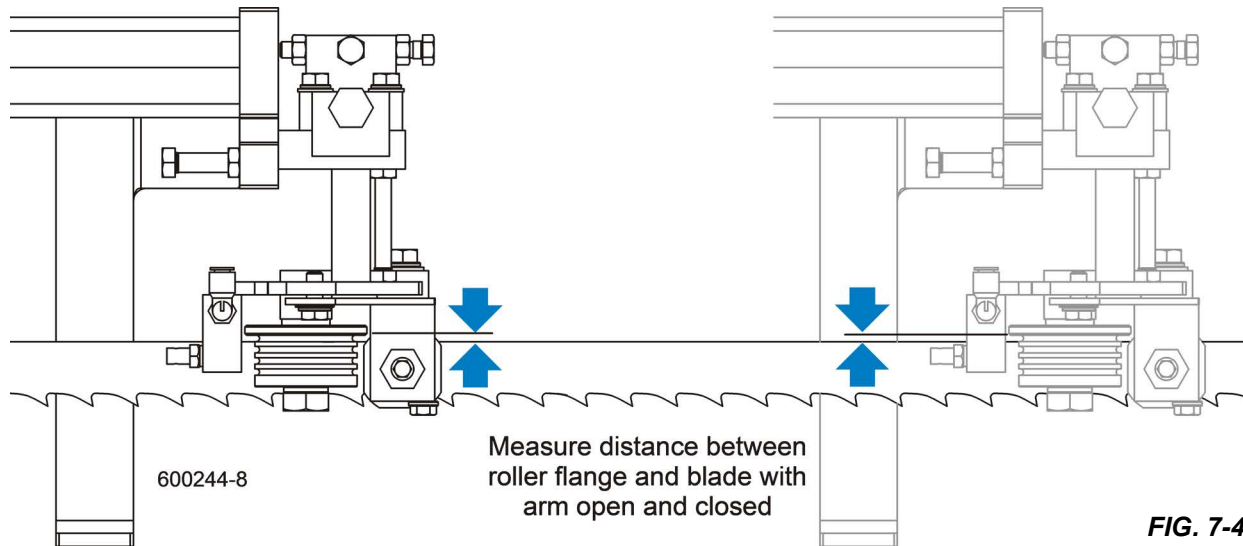

FIG. 7-4
9. With the arm adjusted 1/2" (12.7 mm) from fully closed, measure the distance between the blade guide roller flange and the back of the blade. See FIG. 7-4.